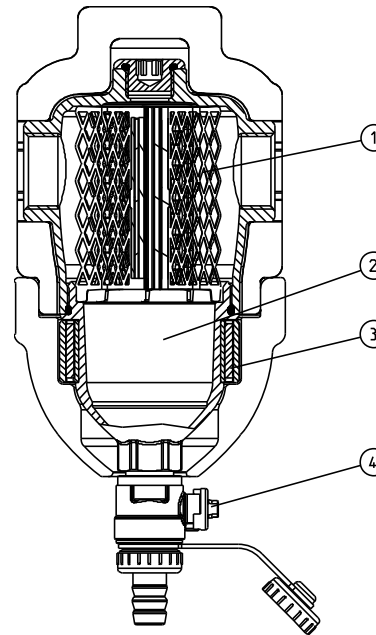

Fig. 2: Item drawing
system. The sludge separator effectively removes even very small particles (mainly sand and rust particles) at a very low pressure loss. The interior element (see Fig. 2, item 1) consists of several, radially arranged nets.
The impurities contained in the water hit these nets, are separated and then sink to into the lower part of the housing (see Fig. 2, item 2).
The magnetic ring (see fig. 2, pos. 3) improves the separation of ferrous impurities. The magnetic ring can also be removed from the housing to discharge the deposited impurities by opening the ballcock (see fig. 2, pos. 4), even whilst the system is running.